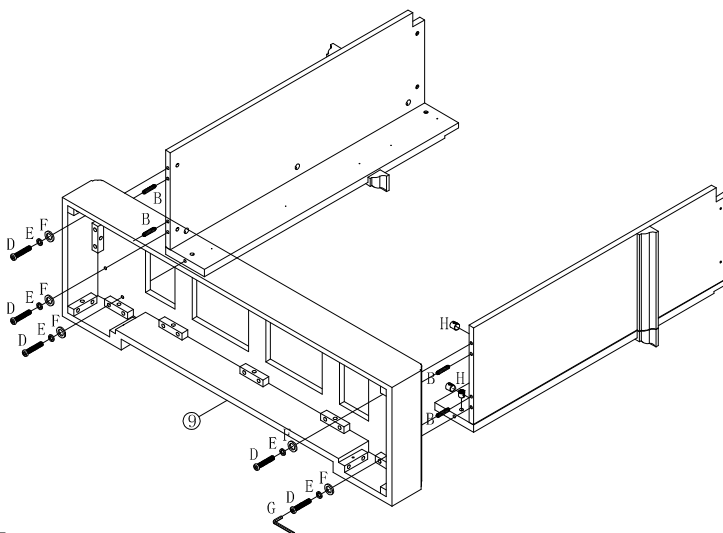

Figure 2
INSERT LEFT MIDDLE SIDE PANEL(7) & RIGHT MIDDLE SIDE PANEL(8) INTO ASSEMBLED UNIT IN THE FIGURE 2 BY WOOD DOWEL(B)